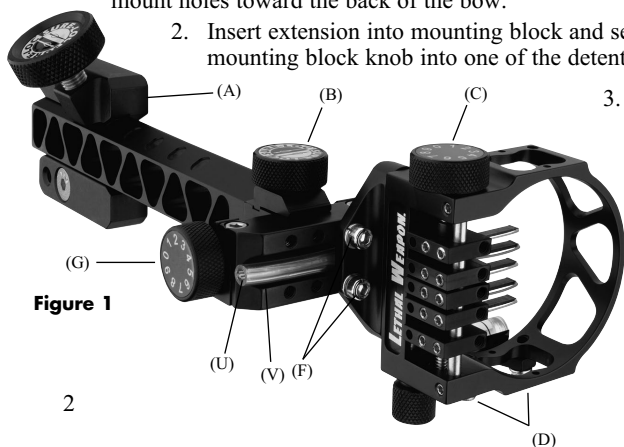

Figure 1
1. Install mounting block (A) on bow with (2) #10-24 x 7/8" flathead allen screws provided. **(See Figure 1)**